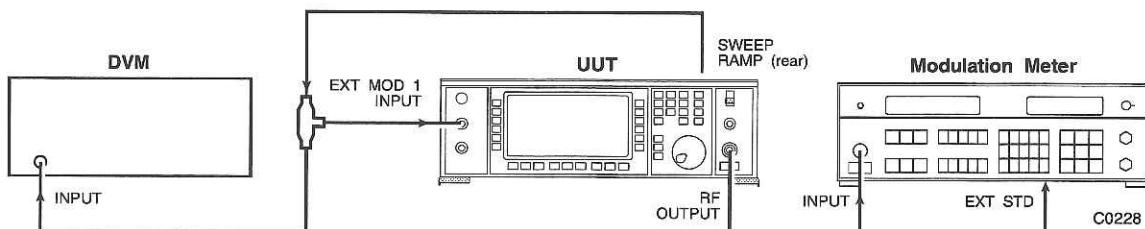

Fig. 5-2-7 Equipment configuration for the FM tests
- (1) Connect the UUT rear panel SWEEP RAMP output via a T-connector to the DVM input and to the EXT MOD 1 INPUT on the UUT. Connect the RF OUTPUT on the UUT to the modulation meter RF input. Connect an external standard to the modulation meter. Equipment configuration is shown in Fig. 5-2-7.